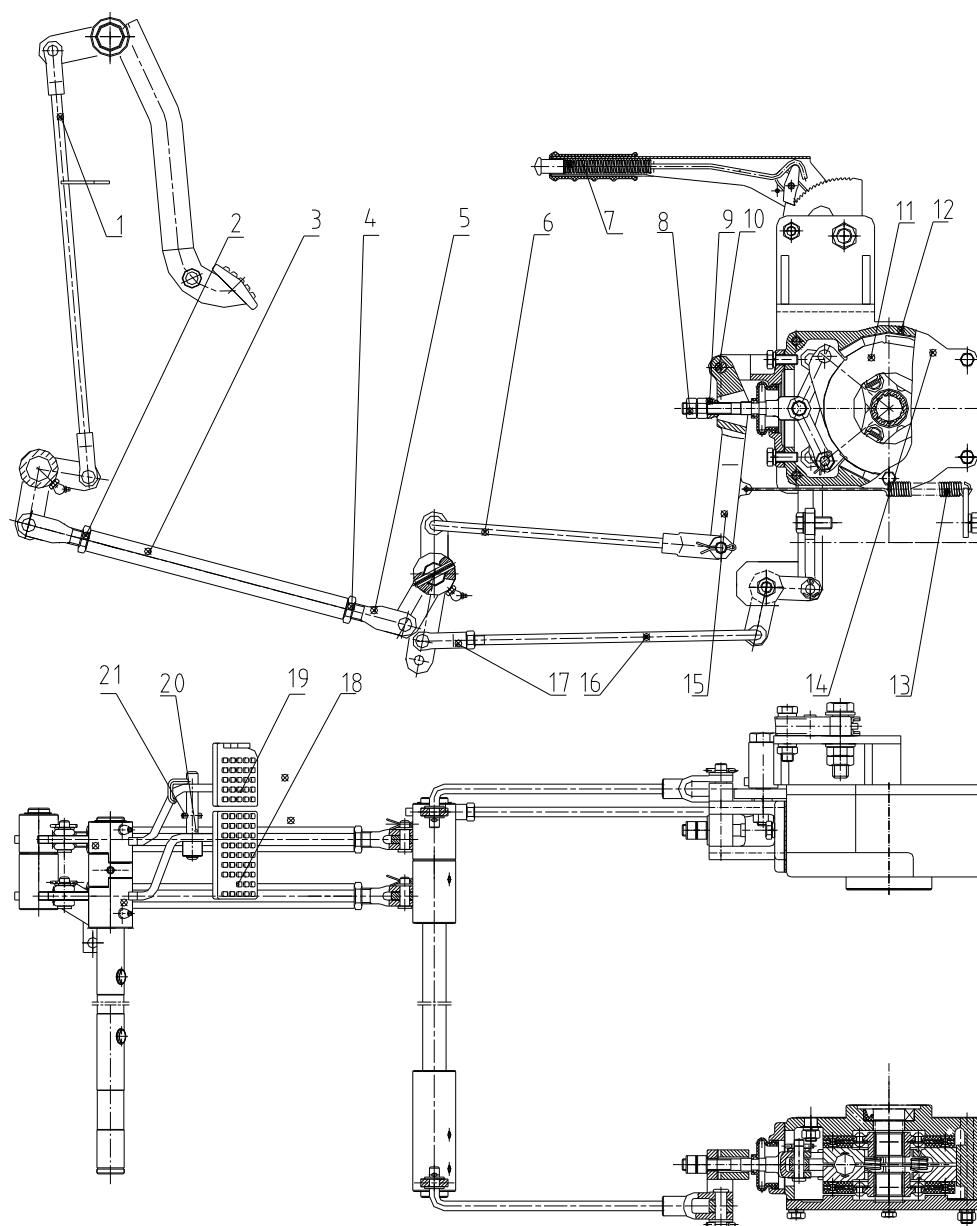

Fig. 10 Adjustment of disc brake
- c. The braking force of left side and right side pedals is different, which causes the brake bias. Fig. 10 shows the structure of disc brake that is consisted of the brake itself and the brake control mechanism. The adjusting methods are as follows: